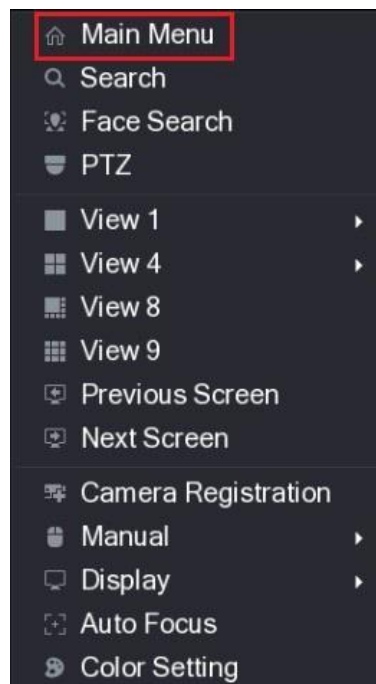

Figure 4-1
Step 1 In the live view screen interface, right-click anywhere on the screen. The shortcut menu is displayed. See Figure 4-1.
The shortcut menu (Figure 4-1) is displayed.